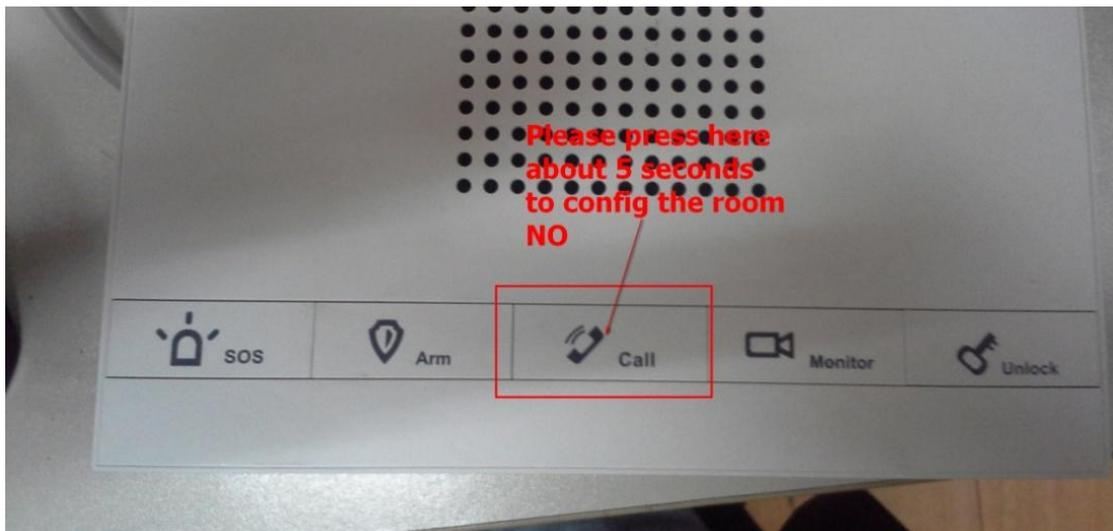

Figure 2-10
**Step 4** After connecting, please press the Call button about 5 seconds to config the Room No.. See Figure 2-10.